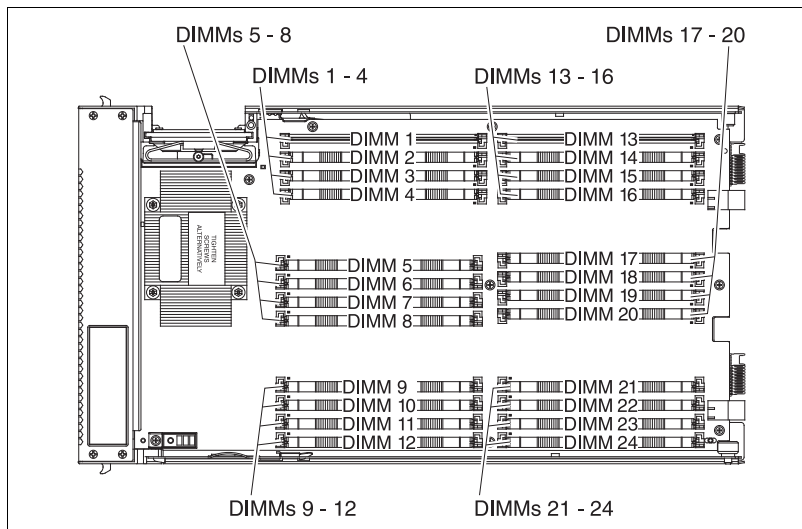

Figure 3-52 DIMM layout on the MAX5 system board
The MAX5 memory expansion blade has 24 memory DIMM sockets (Figure 3-52). The MAX5, which must be connected to an HX5 system (only the 1-node HX5 supports the MAX5), has one memory controller and six SMI connected memory buffers.
- ▶ The data widths for the following quads must match. For example, DIMMs in each quad must be all 4Rx8 or all 2Rx8. See Figure 3-49 on page 300 for the block diagram and Figure 3-52 on page 305 for the physical location of these DIMMs: